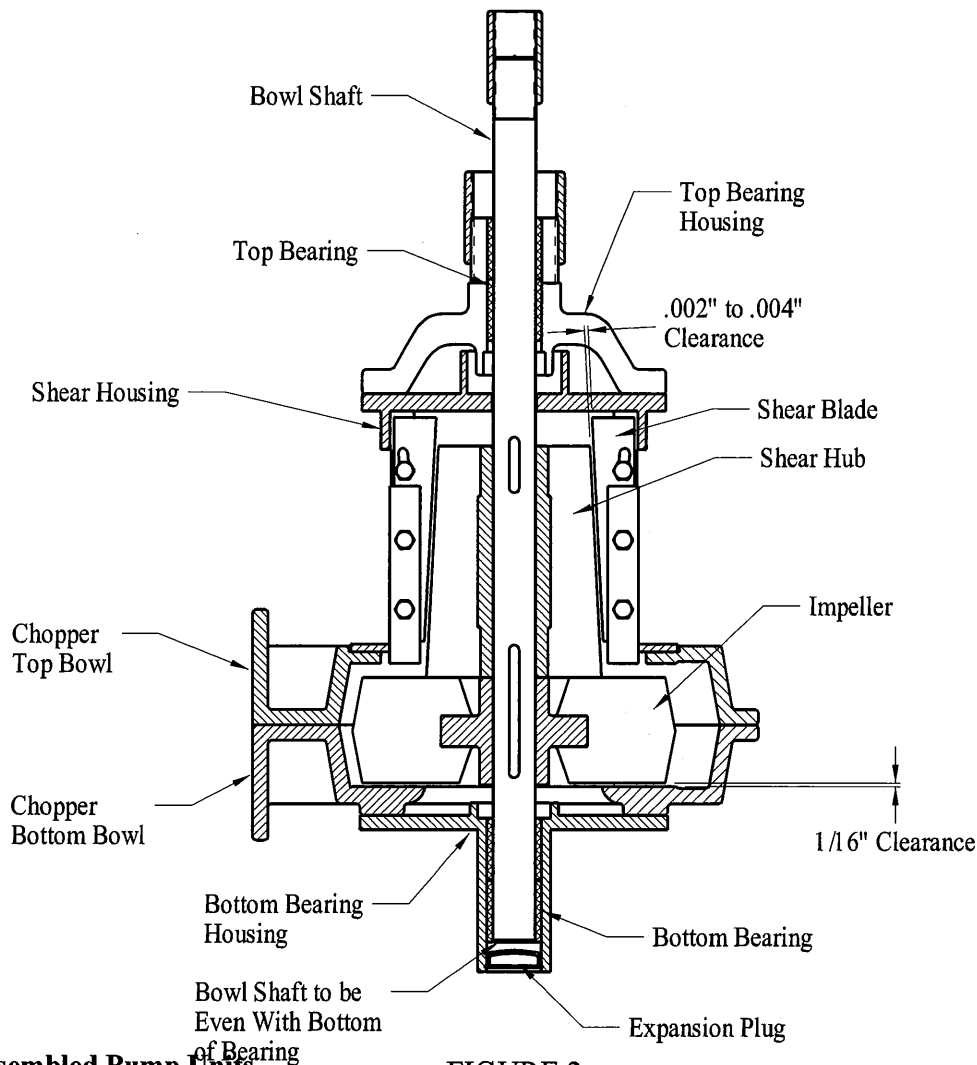

FIGURE 2.
4. If adjustment is required to obtain this clearance, follow these steps (See Figure 2).